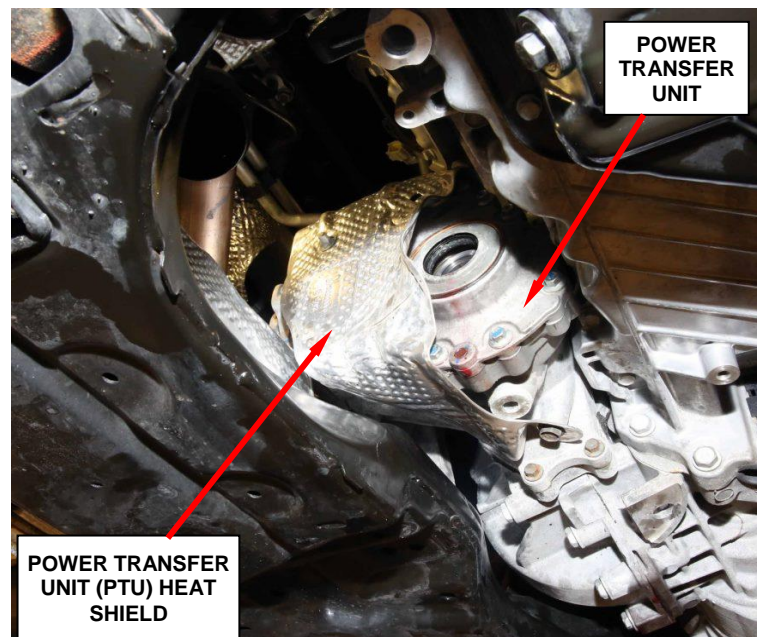

Figure 16 – PTU Heat Shield
22. **For vehicles with All Wheel Drive**, remove and save the Power Transfer Unit (PTU) heat shield (Figure 16).
24. **For vehicles with All Wheel Drive**, remove and save the two lower PTU fasteners (Figure 16).